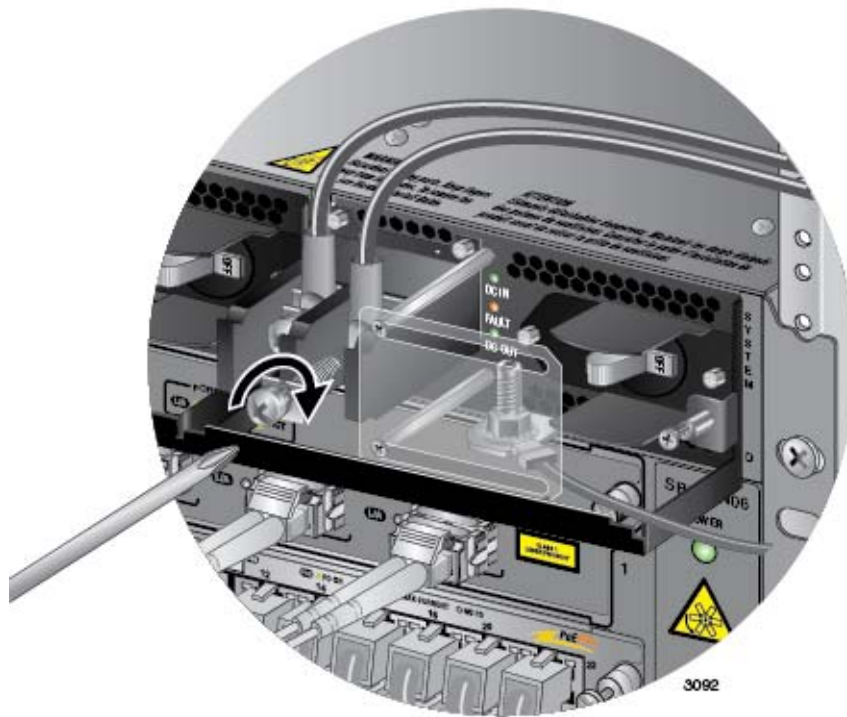

Figure 128. Connecting the Negative (-) Power Wire with a Straight Terminal
7. With a #3 Phillips-head screwdriver, connect the negative (-) power lead wire to the negative terminal on the power supply, with the remaining terminal screw removed in the previous step 5. The negative terminal is on the right. You may attach the terminals with the wires either above or below the terminal block. Figure 128 on page 186 shows the wires above the terminal block.